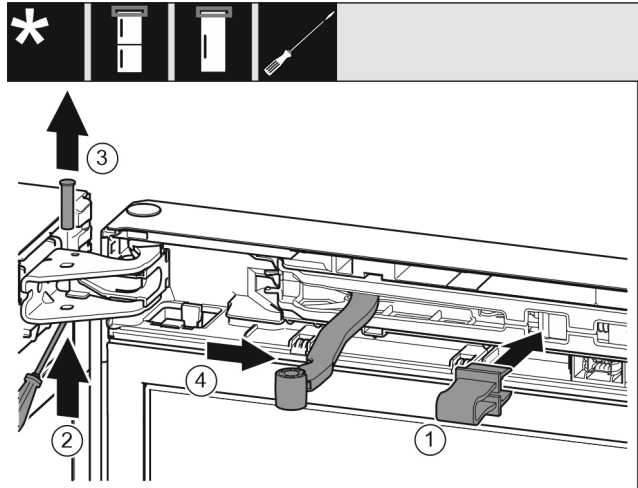

Fig. 8
- ▶ Engage the locking device in the opening. Fig. 8 (1)
- ▶ Push out the bolt with a screwdriver. Fig. 8 (2)
- ▶ Remove the bolt upwards. Fig. 8 (3)
- ▶ Turn the hinge in the direction of the door. Fig. 8 (4)